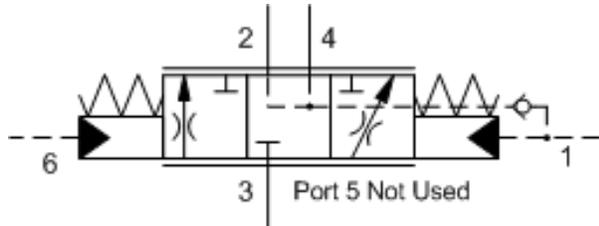

Figure 20 - FT\*H-XC
- **Figure 20** shows the circuit symbol for an FT\*H valve.